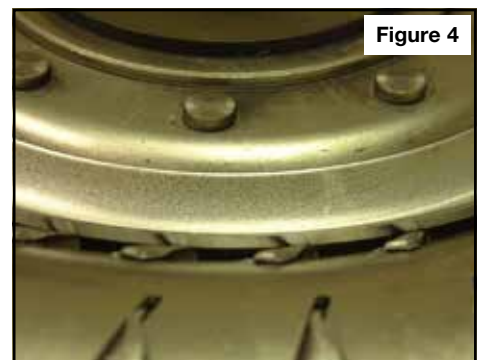

Figure 4
- a. In its unmodified form, the O.D. of the **GM-WS-39** will sit on top of the first row of turbine vanes in an Allison 540/545 (**Figure 4**).